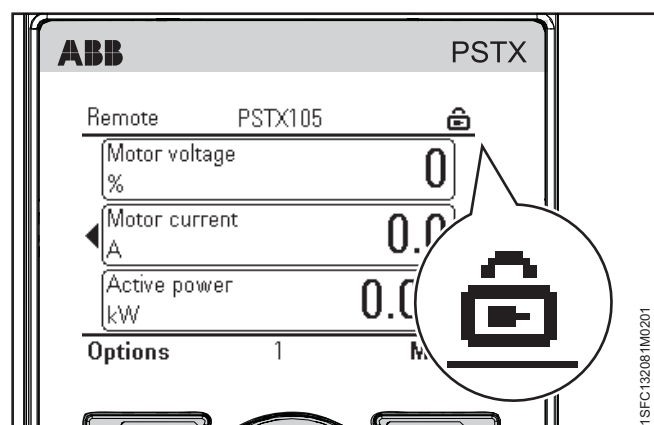

Figure 6.14
5. Emergency mode, See **Figure 6.14**